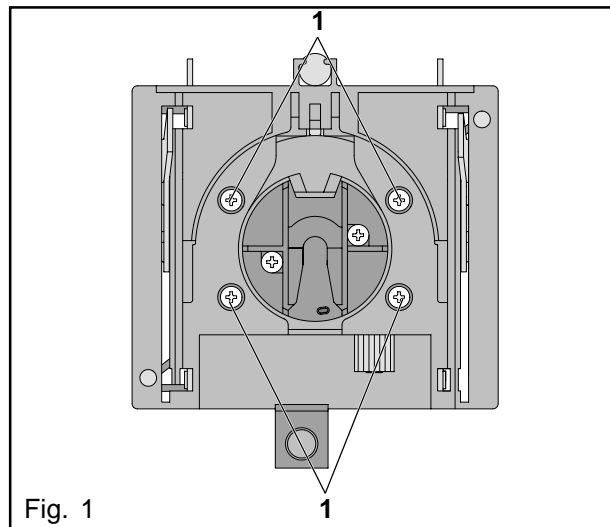

Fig. 1
- Fasten the actuator to the brewer base by means of 4 screws (1). (Fig. 1)